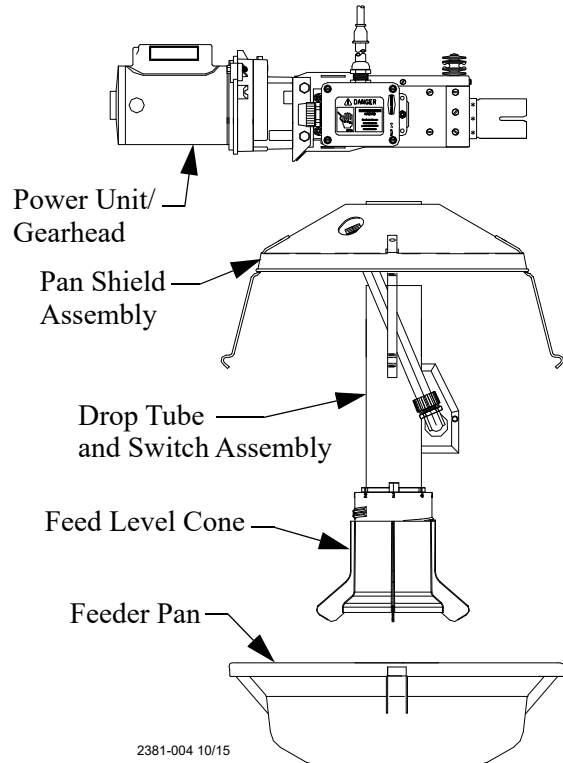

Figure 32. Drop Tube and Switch Assembly
5. Insert the Drop Tube and switch assembly through the Pan Shield from the bottom, (See **Figure 32**). The hole in the Pan Shield should be located on the same side of the Drop Tube as the switch cord and directly under the white box on the body assembly. Bolt the Drop Tube to the Body Assembly. The Switch on the Drop Tube should be mounted opposite the Power Unit.